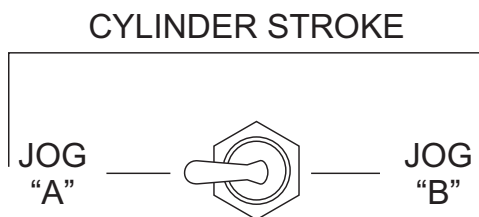

Figure 58. Manual Cylinder Jogging Switch
- Place and hold the **manual cylinder jogging switch** (Figure 58) to either **JOG "A"** or **JOG "B"** position to test the pressure of that cylinder.